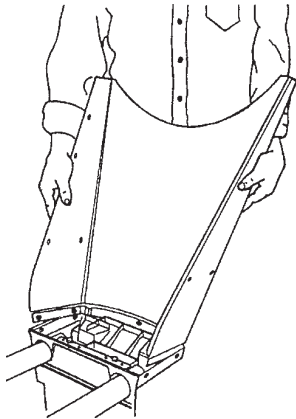

Figure B-24
8. Place the "lip" of the first leg (30) inside the MARK 520S base, as shown in Figure B-24.